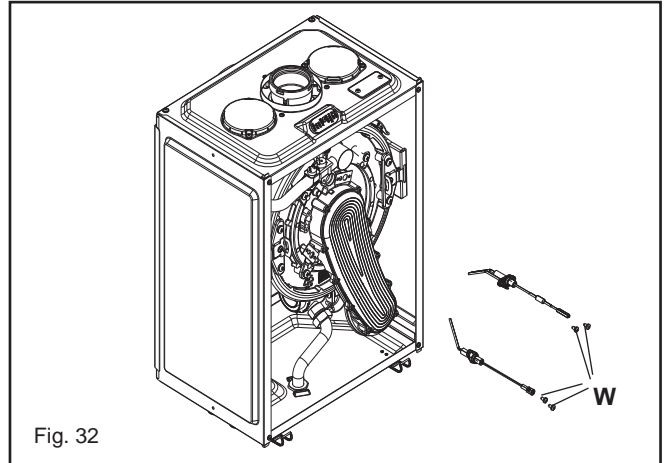

Fig. 32
6.13 ELECTRODES & CONDENSE SENSOR (fig. 32)